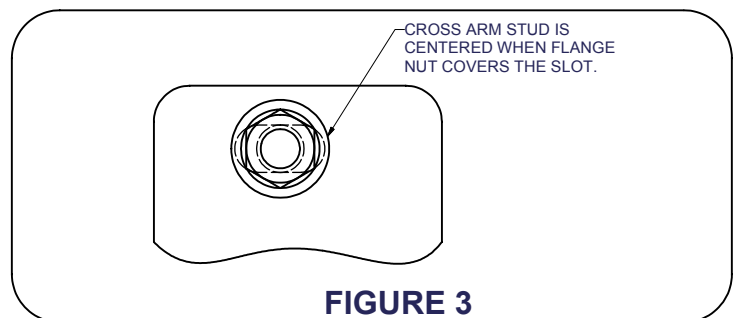

FIGURE 3
- 9) Rotate the cross arms until they contact the truck bed. Center the rear cross arm studs in the side plate slots as shown in **Figure 3**. Use a 15/16" wrench to tighten the 5/8" flange nuts on the rear cross arm to the side plates. **(Note: Do not tighten front cross arm until center section installation is complete.)**